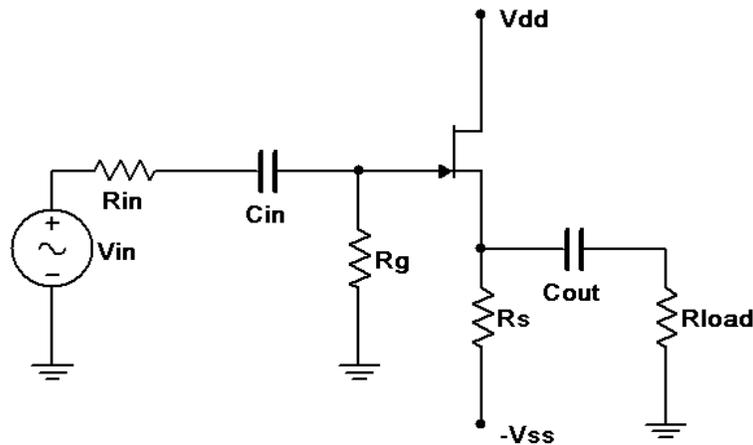

Figure 2
5. Consider the circuit of Figure 2 using  $V_{dd} = 15$  volts,  $V_{ss} = -3$  volts,  $R_{in} = 33\text{ k}\Omega$ ,  $R_g = 330\text{ k}\Omega$ ,  $R_s = 4.7\text{ k}\Omega$ ,  $R_{load} = 22\text{ k}\Omega$ ,  $C_{in} = 10\text{ }\mu\text{F}$  and  $C_{out} = 470\text{ }\mu\text{F}$ . Assuming  $V_{GS} = -2$  volts and  $g_m = 2\text{ mS}$  (4 mS if using the J112), determine the theoretical gain and input impedance of the circuit and record in Table 2.
6. Build the circuit of Figure 2 using  $V_{dd} = 15$  volts,  $V_{ss} = -3$  volts,  $R_{in} = 33\text{ k}\Omega$ ,  $R_g = 330\text{ k}\Omega$ ,  $R_s = 4.7\text{ k}\Omega$ ,  $R_{load} = 22\text{ k}\Omega$ ,  $C_{in} = 10\text{ }\mu\text{F}$  and  $C_{out} = 470\text{ }\mu\text{F}$ . Set  $V_{in}$  to a 100 mV peak sine at 1 kHz. Measure the voltages at the gate and load, and record these in Table 2. Capture images of the input and gate voltages, and the gate and load voltages. Note whether or not the load is inverted compared to the gate signal.